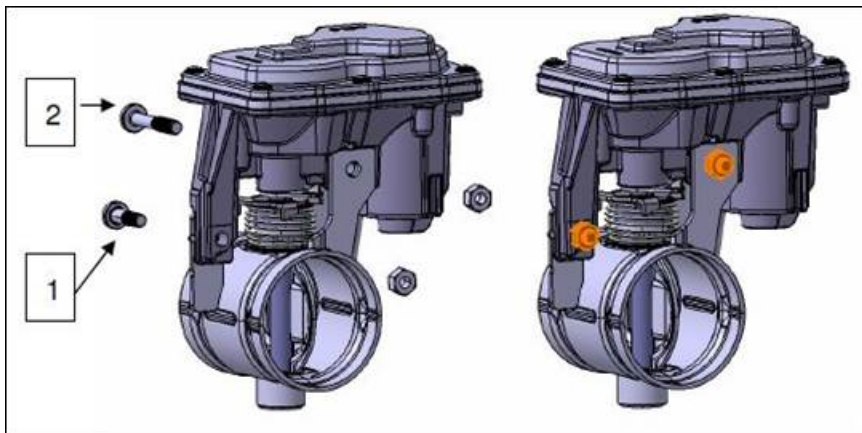

Figure 6
- First install the short screw (inset 1 in Figure 6), second, install the long screw (inset 2 in Figure 6).